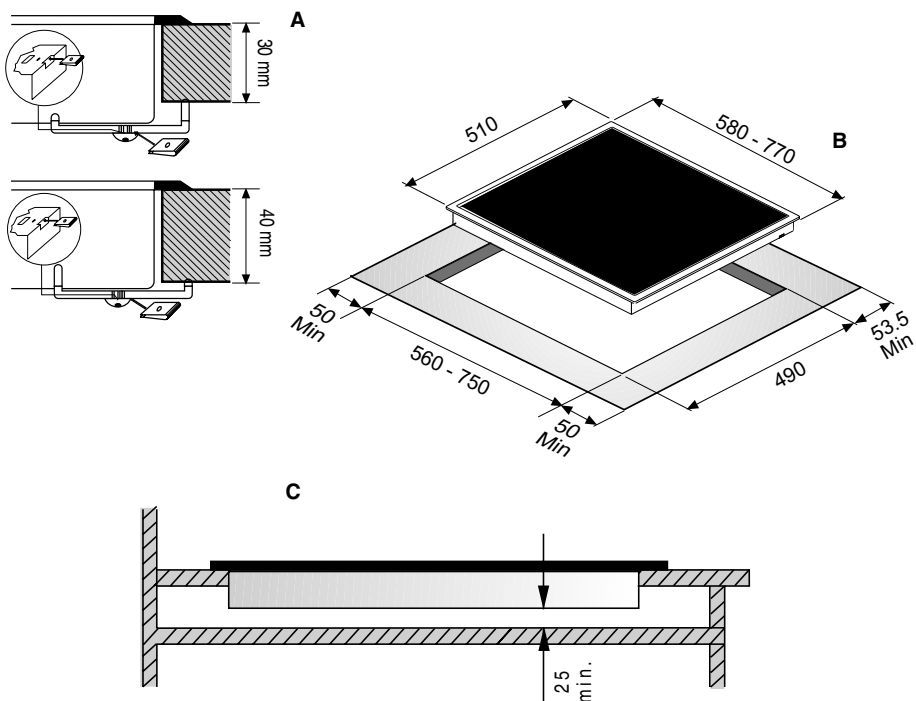

FIG.6
1.3 RECIPIENTI PER LA COTTURA fig.6
1.3 KOCHGEFÄSSE s.Abb.6